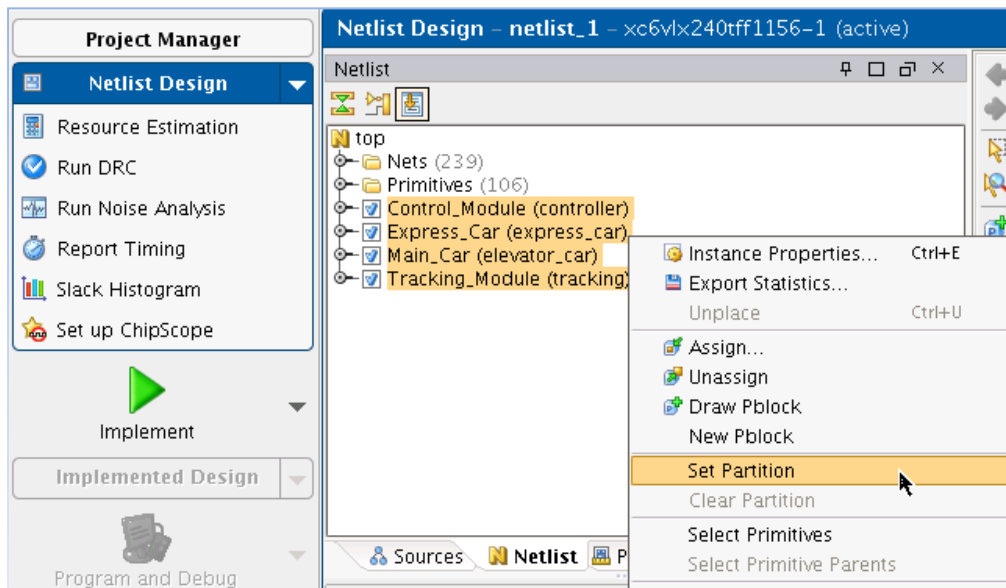

Figure 10: Setting Partitions in PlanAhead
4. Select the module instances to be marked as partitions, right-click and select **Set Partition**, as shown in Figure 10.